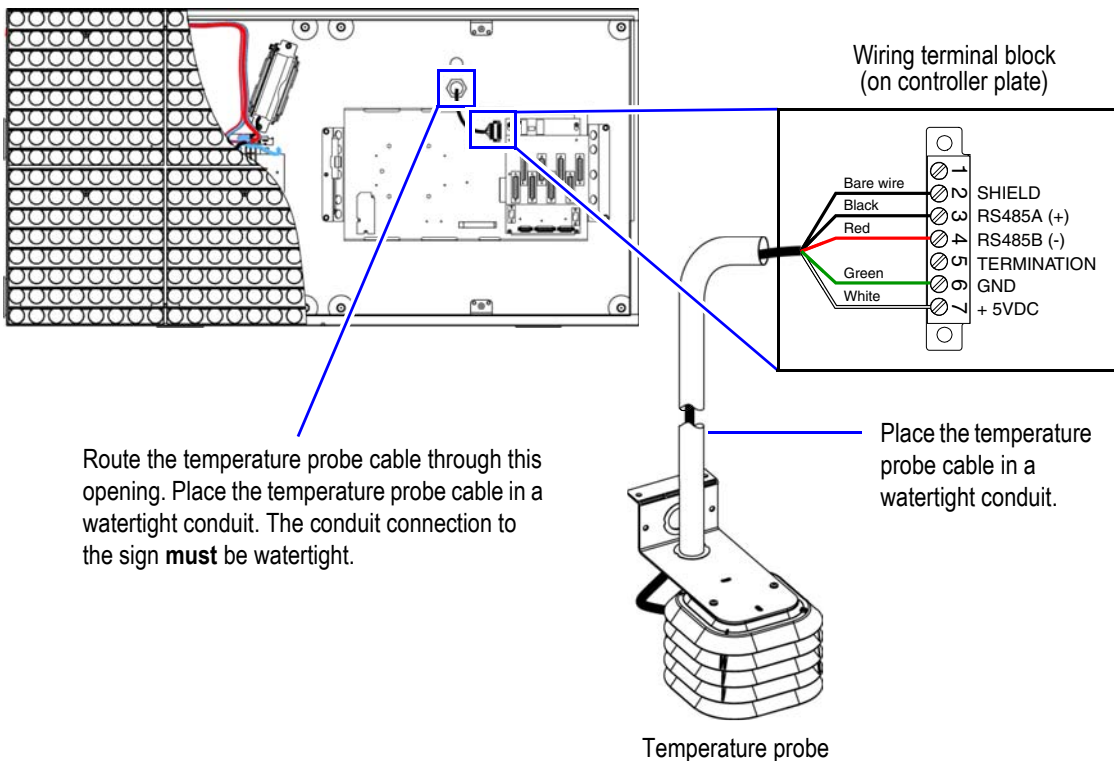

Figure 29. Temperature probe connection details
3. Connect the temperature probe cable to the wireway terminal block as shown in Figure 29.